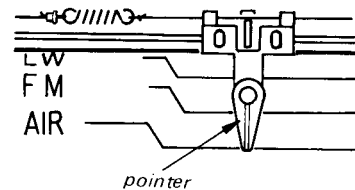

Fig. 2-6.
3. Set the dial drum so that it shows AIR band and that the tip of the pointer is on the line of AIR band as shown in Fig. 2-6.